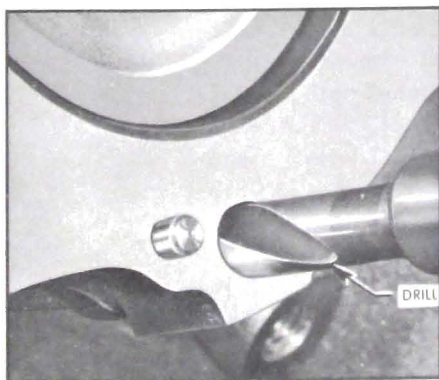

Figure 2-76—Drilling Out Damaged Threads
1. Prepare the hole. See Figure 2-76.